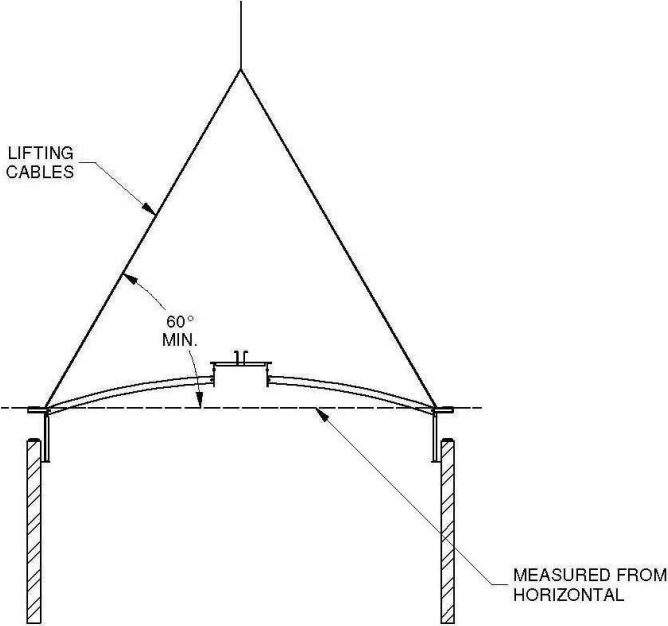

Figure 2.15 Illustrative Section: Rigging Section
4. In order to prevent excessive compressive stress on the cover, lifting cables must have an angle of inclination of at least 60 degrees from horizontal. (Figure 2.15)